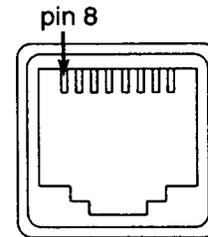

Figure 8-1. J2 Programming Connector, Front View
2. Using a DVM or oscilloscope, adjust the Audio control until 470 mV rms (1.33V p-p) is present at pin 8 of the ZR330 programming connector J2 on the front of the ZR330 (refer to Figure 8-1), or on either pin of JP5 inside the ZR330.